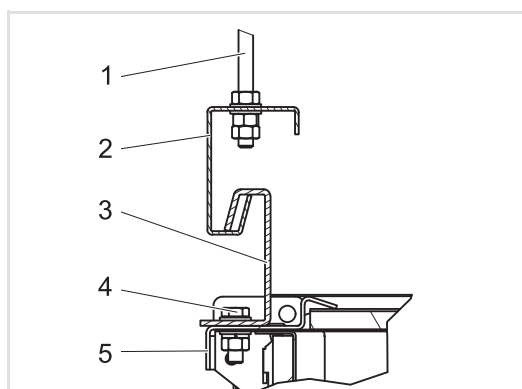

Fig. 4-7: Fixing rail adapter
- Use the fixing material (see Fig. 4-7, Pos. 4) to fasten the rail adapters (see Fig. 4-7, Pos. 3) to the assembly mountings on the side of the unit/accessory (see Fig. 4-7, Pos. 5), on which the suspension rail (see Fig. 4-7, Pos. 2) is installed.
- Hang the HyPower-Geko with rail adapters (see Fig. 4-7) in the suspension track.